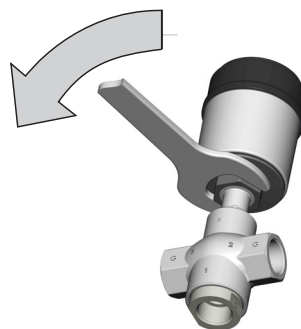

Fig. 5: Rotating the actuator
- ▶ Only turn the actuator in the specified sense of direction (see "Fig. 5").